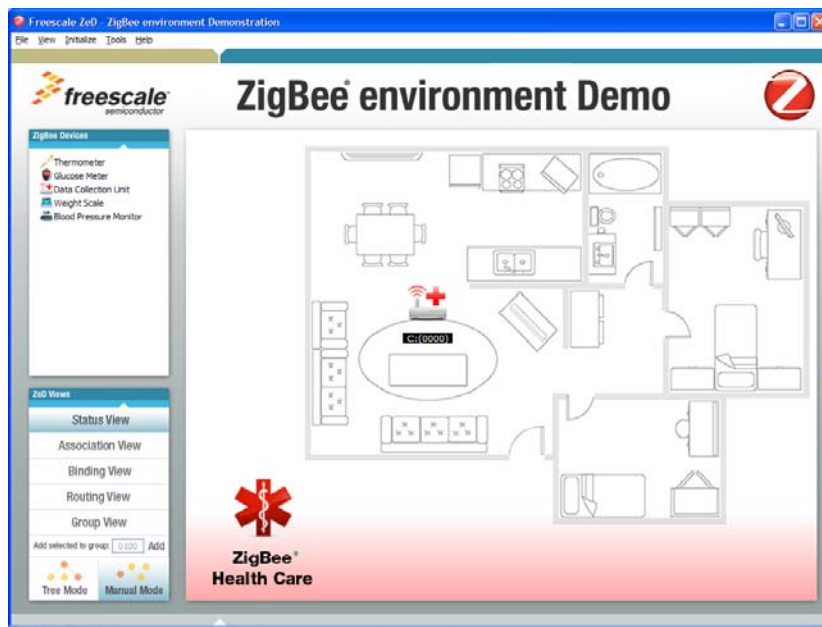

Figure 12. ZigBee Main Window After DCU Detection
5. Ensure that the COM port of the ZigBee Coordinator is highlighted and click the OK button. This launches the ZeD main window. ZeD connects to the ZigBee Coordinator and will use it as a gateway to find out information about the other nodes in the network. Once the coordinator application type is detected, the ZeD main view changes to reflect the fact that it has detected a Health Care Profile DCU as shown in Figure 12.